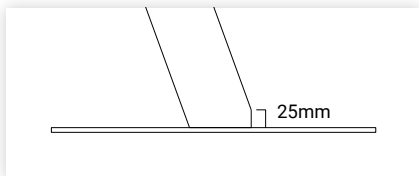

figure 11
3. Important: Cut the front corners back 25mm - this can make the ladder easier to close and can also prevent damage to the ladder if dropped during opening (figure 11).